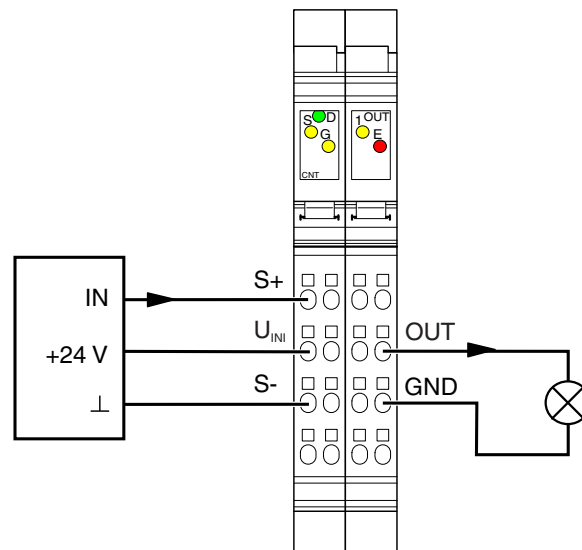

Figure 5-1 Example of wiring for event counting
**Wiring** The wiring is as shown in Figure 5-1 on page 47.